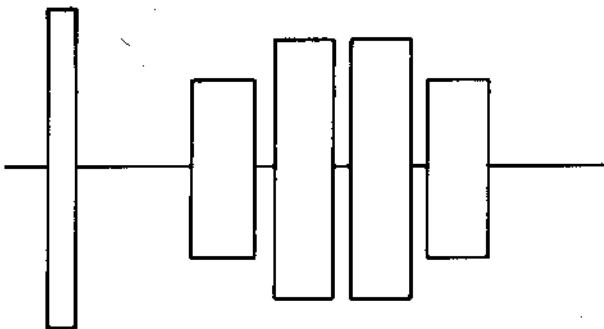

Fig. 5-3 Azimuth burst
- 3) Synchronise the probe of the oscilloscope by TP9 of PCB and connect another probe to TP1, and the probe ground to TP3, TP11 (ground). Set the input to AC, the vertical axis to 10mV/DIV, and the horizontal axis to 0.5msec/DIV. Make sure that the two outside burst waveforms are smaller than two inside burst waveforms as shown in Fig. 5-3.
3) Synchronize the probe of the oscilloscope by TPS or PCB and connect another probe to TP1. Set this probe ground to TP8, TP11 (ground). Set the input to AC, the vertical axis to 10mV/DIV, and the horizontal axis to 0.5ns/c/DIV. Make sure that the two external burst waveforms are smaller than the inside burst waveforms as shown in Fig. 5-3.